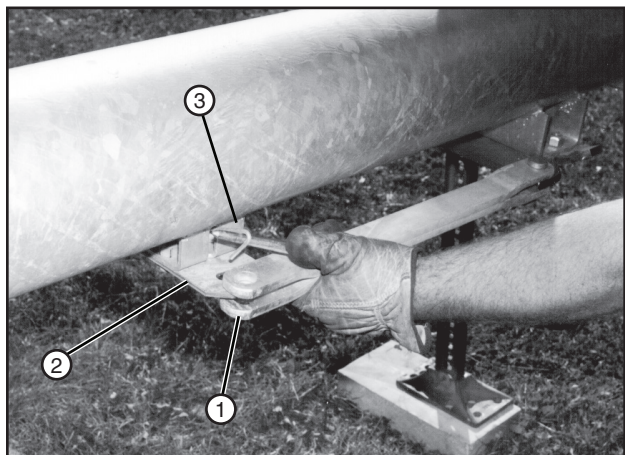

Figure 86-2 1. Tow Link Bar 2. Tow Link Carrier 3. Carrier Spring
4. Rotate the tow link bar into the tow link carrier until the carrier spring latches into the hole in the tow link bar. See figure 86-2.